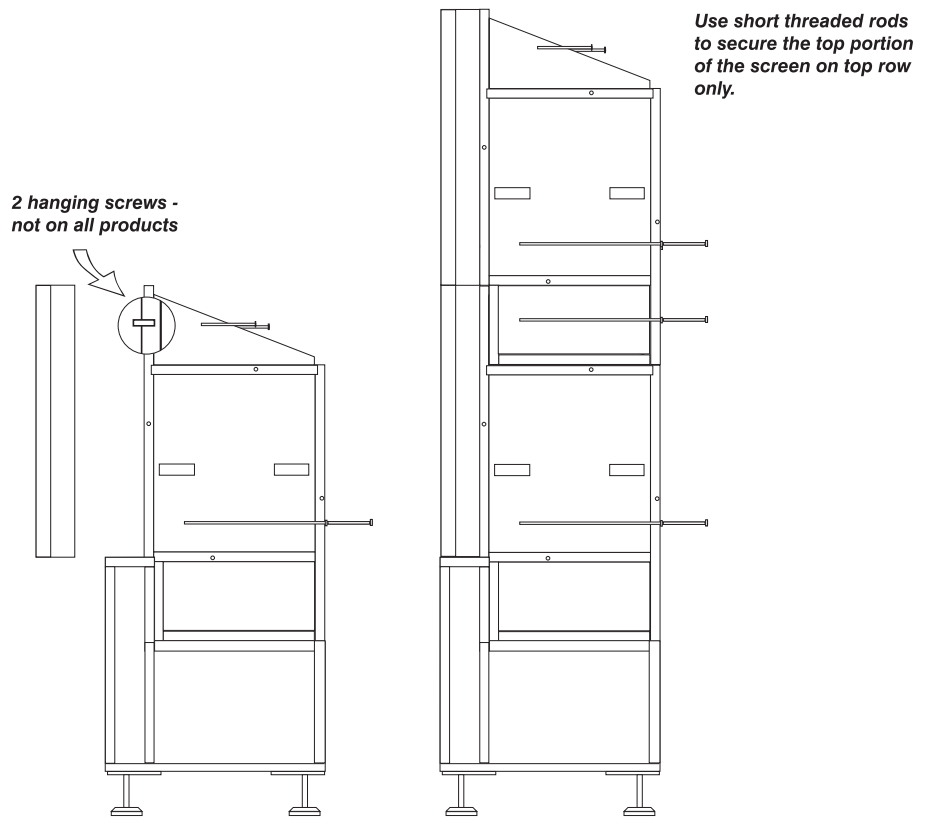
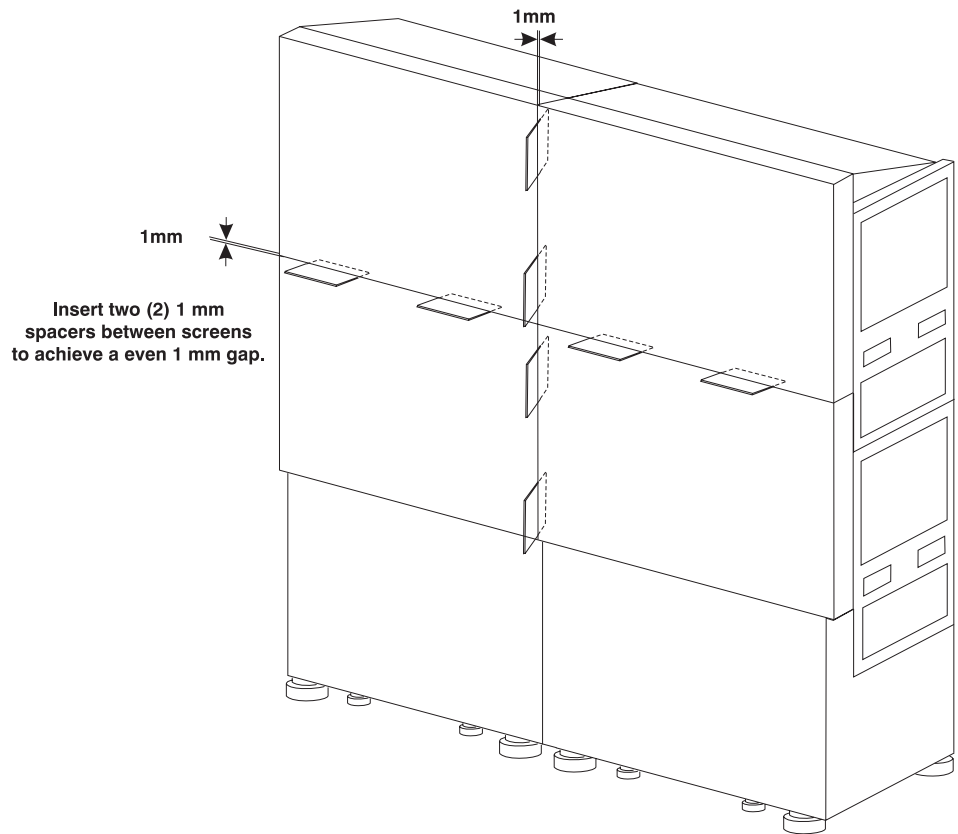

Figure 8.
Figure 9.
Step 4 - Installing display screens (Figure 8. and Figure 9.)